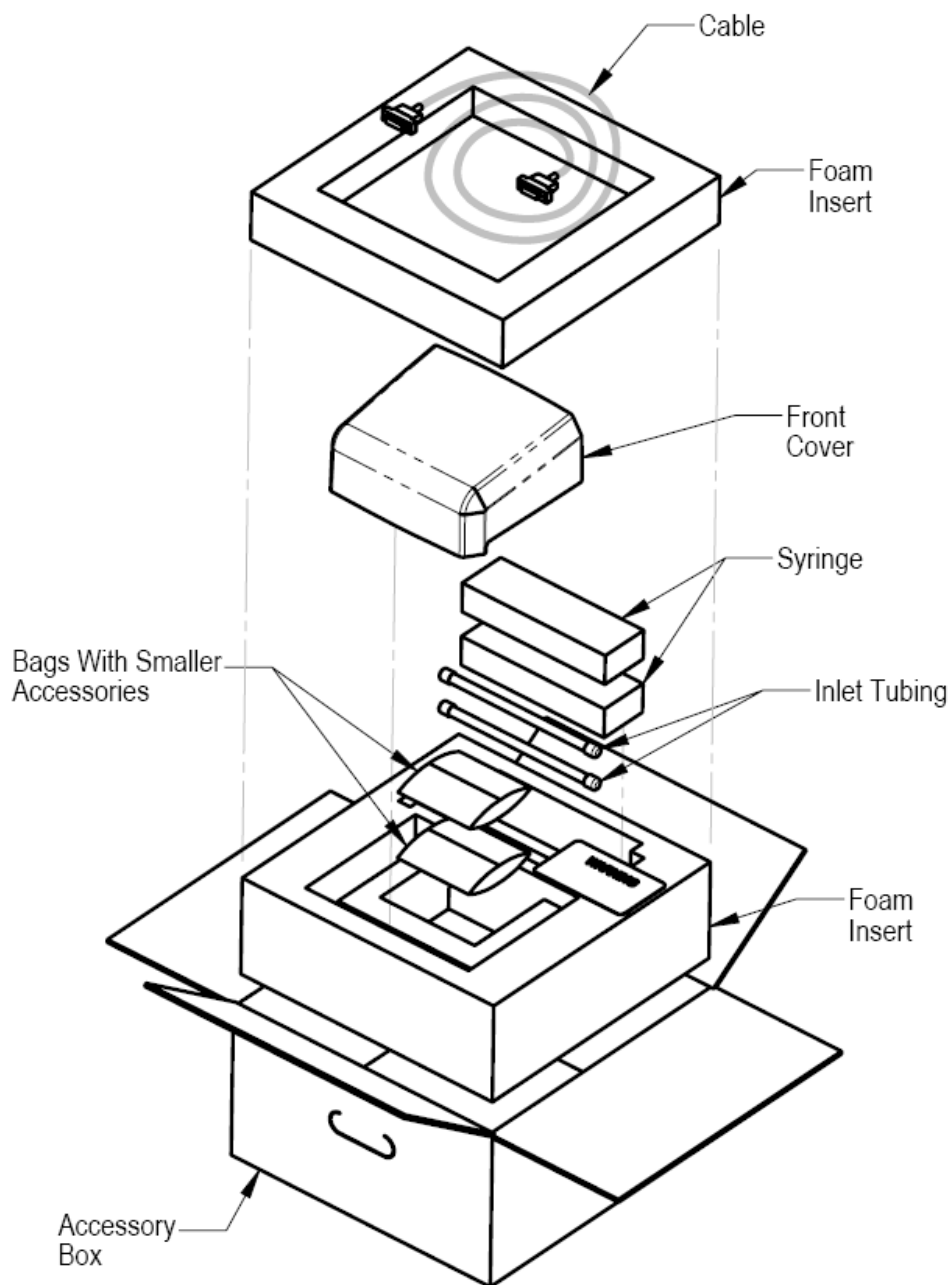

Figure 9: Packing the dispense module accessories
10. Insert the bottom foam end cap in the dispenser module accessories shipping box and place the accessories in the insert, as shown in **Figure 9**.